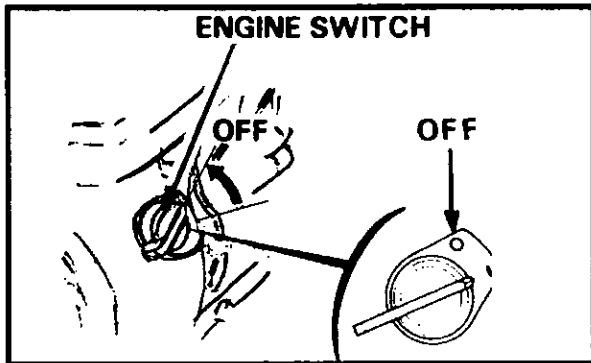

Figure 5-11 Engine Switch - OFF Position.
3. Stop the engine by turning the engine ON/OFF switch to the right to position ○, Refer Figure 5-11.